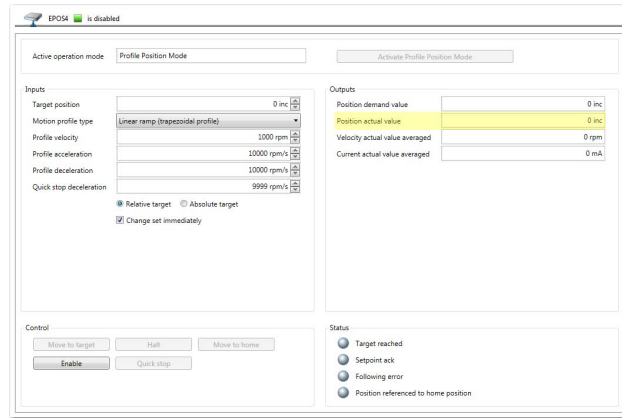

Figure 8-86 Adjustment of SSI commutation offset value | Check sense of rotation
c) The indication «Position actual value» (→Figure 8-86) must increase.